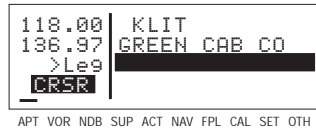

Figure 3-143
4. Press **ENT** to approve each line of remarks. The cursor will automatically move to the next line (see figure 3-143).